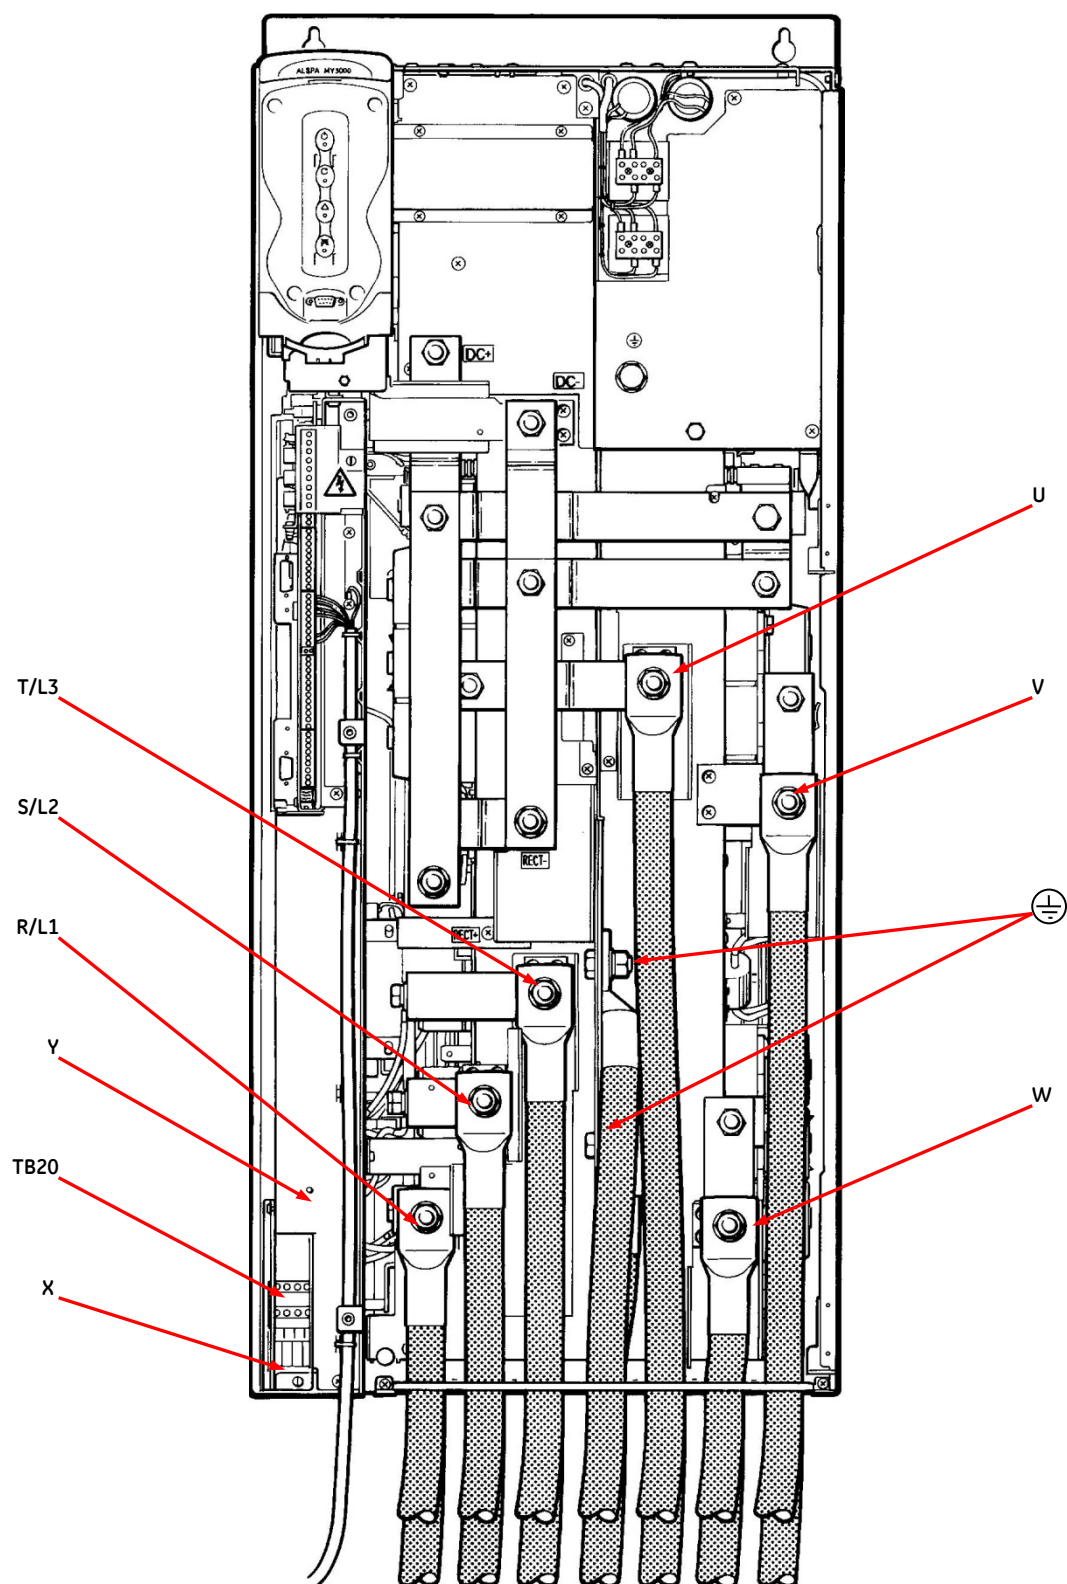
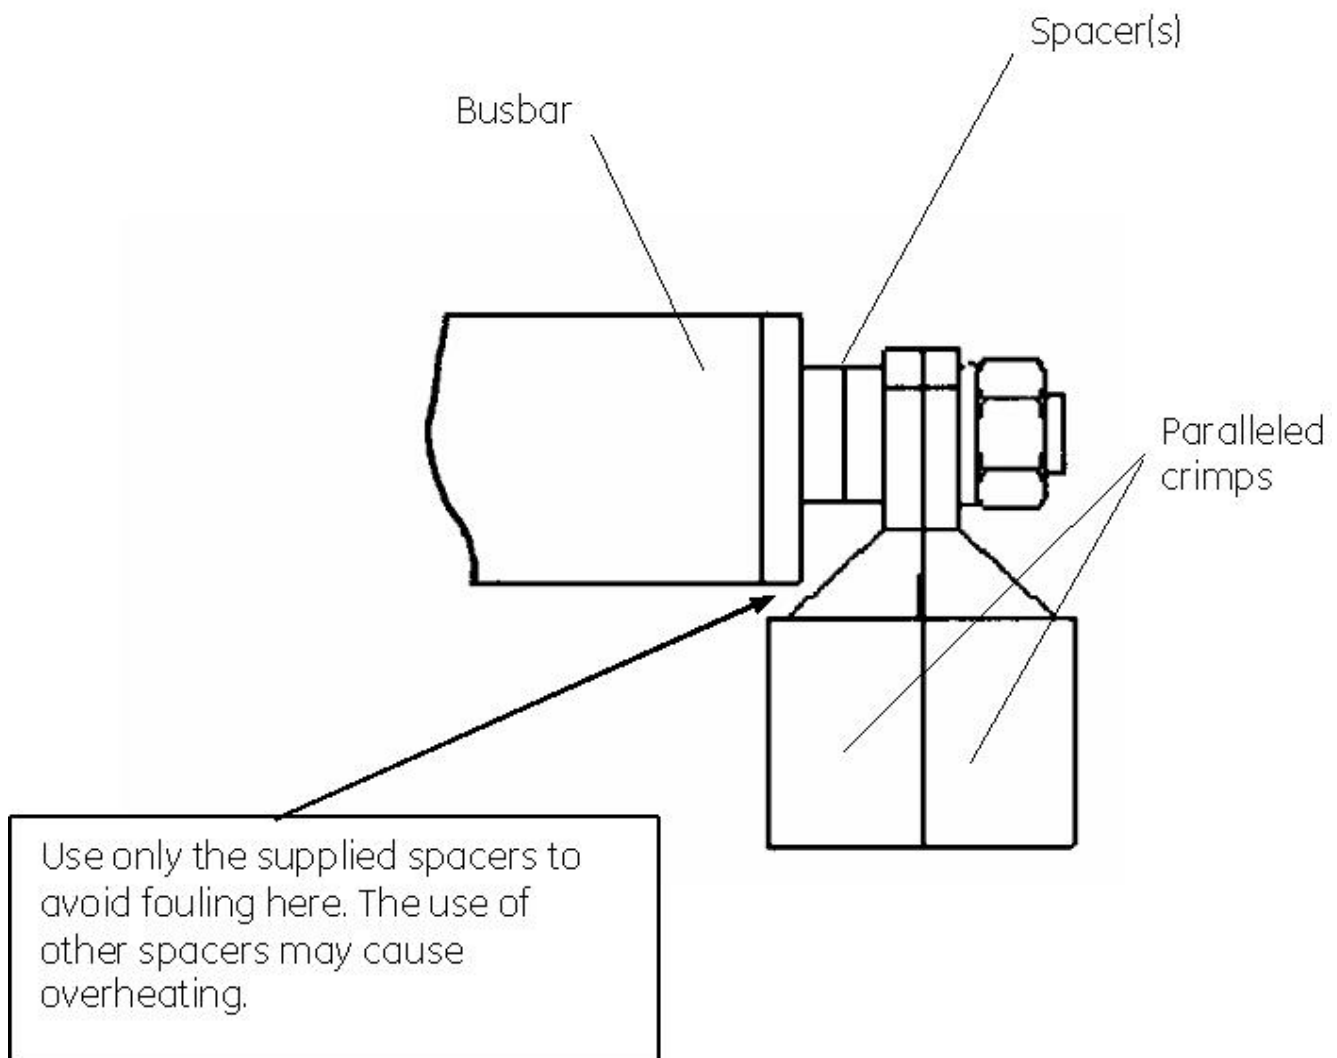

Figure 3-11. – Power Connections for Frame Size 7
Figure 3-12. – Use of Spacers to Avoid Fouling Busbar
The power connector layout for frame size 7 is shown in Figure 3-11.
- a) Referring to Figure 3-12, connect the motor supply cables to terminals U, V and W on the drive. Note that the diagram shows paralleled connections. For making parallel connections with smaller cable sizes, copper spacers have been provided to space the crimps off the busbars, as shown in Figure 3-11. Where sizes above 2x300 mm2 are required (2x600 MCM), insulated busbars may be connected directly to the terminals.